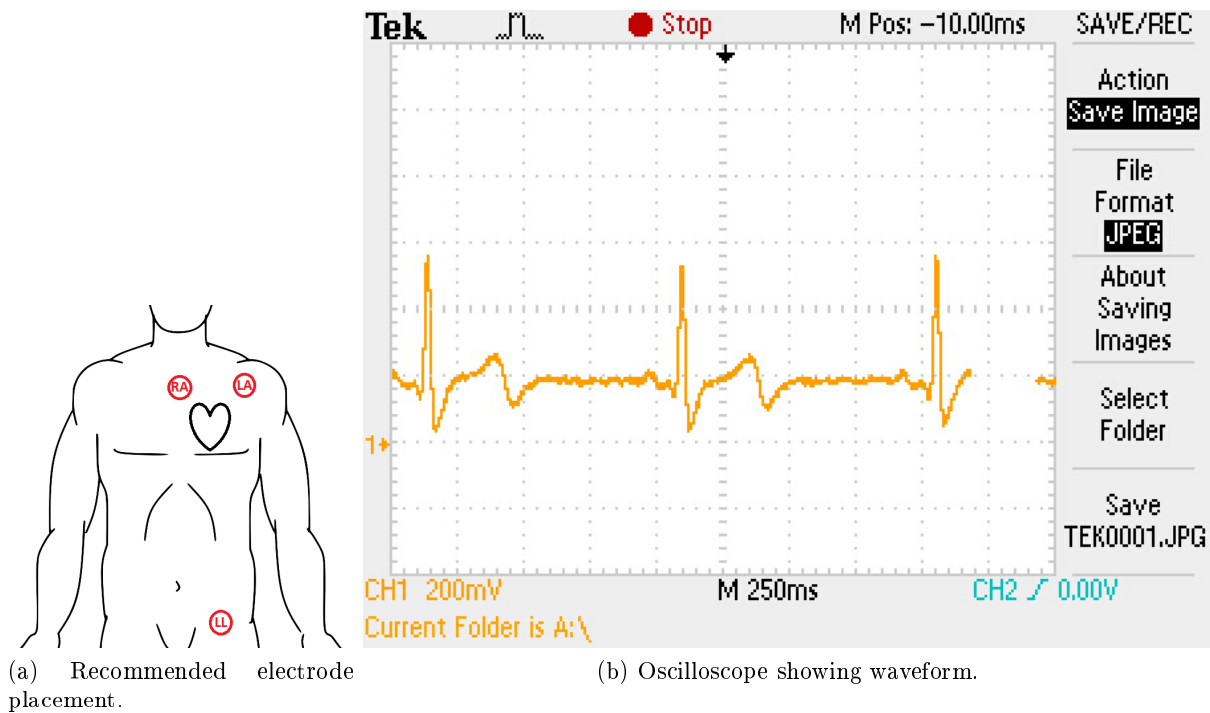

Figure 5.5: Electrode attachment recommendation and resulting ECG waveform.
4. You should now be able to see a functional ECG, similar to the one shown in figure 5.5.